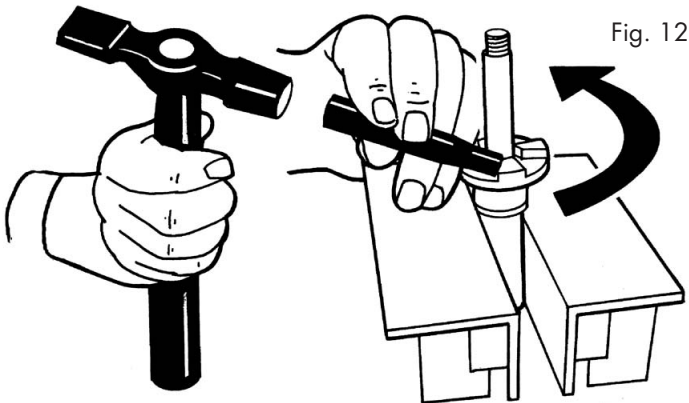

Fig. 12
6. To remove front gear dog, place shaft in vice (Fig. 12) and tap counter clockwise (normal RH thread).